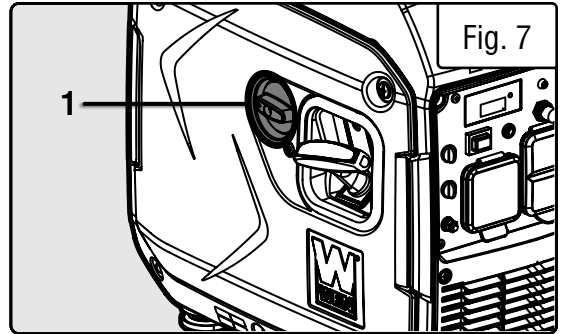

Fig. 7
7. Turn the 4-in-1 switch (Fig. 7 - 1) to the “CHOKE” position.
9. Turn the 4-in-1 switch (Fig. 7 - 1) to the “RUN” position.